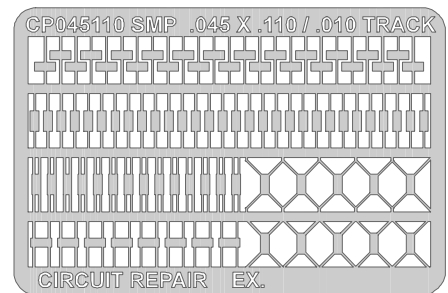

Figure 2: Select a commercially available replacement pad that matches the missing pad.
8. Select a commercially available surface mount pad that most closely matches the surface mount pad to be replaced. If a special size or shape is needed they can be custom fabricated. (See Figure 2).